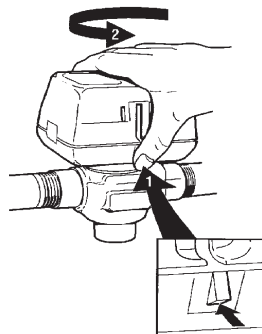

Figure 7 - Lock Mechanism to detach Actuator
1. The actuator head is automatically latched to the valve. Align the coupling hole in the bottom of the actuator with the valve stem. Press the actuator down towards the body with moderate hand force and turn the actuator counter-clockwise by 1/8 turn (45 degrees) to line up the actuator with the piping. The lock will click when engaged (See Figure 7).